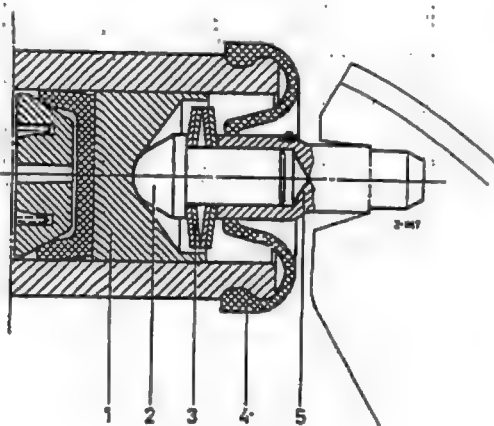

Fig. 42-9/16
6. Remove the two spring-loaded pins from the brake wheel cylinder (Fig. 42-9/16).